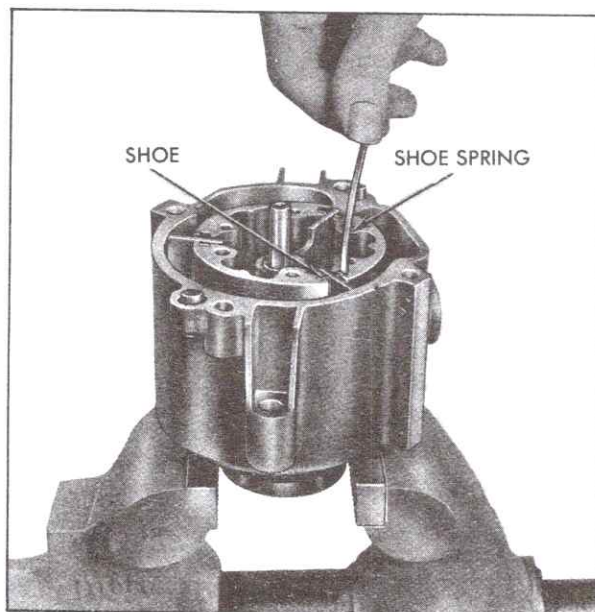

Fig. 6-159 Installing Shoe Springs
3. Insert shoe spring behind driven shoes with bow toward shoe, Fig. 6-159.